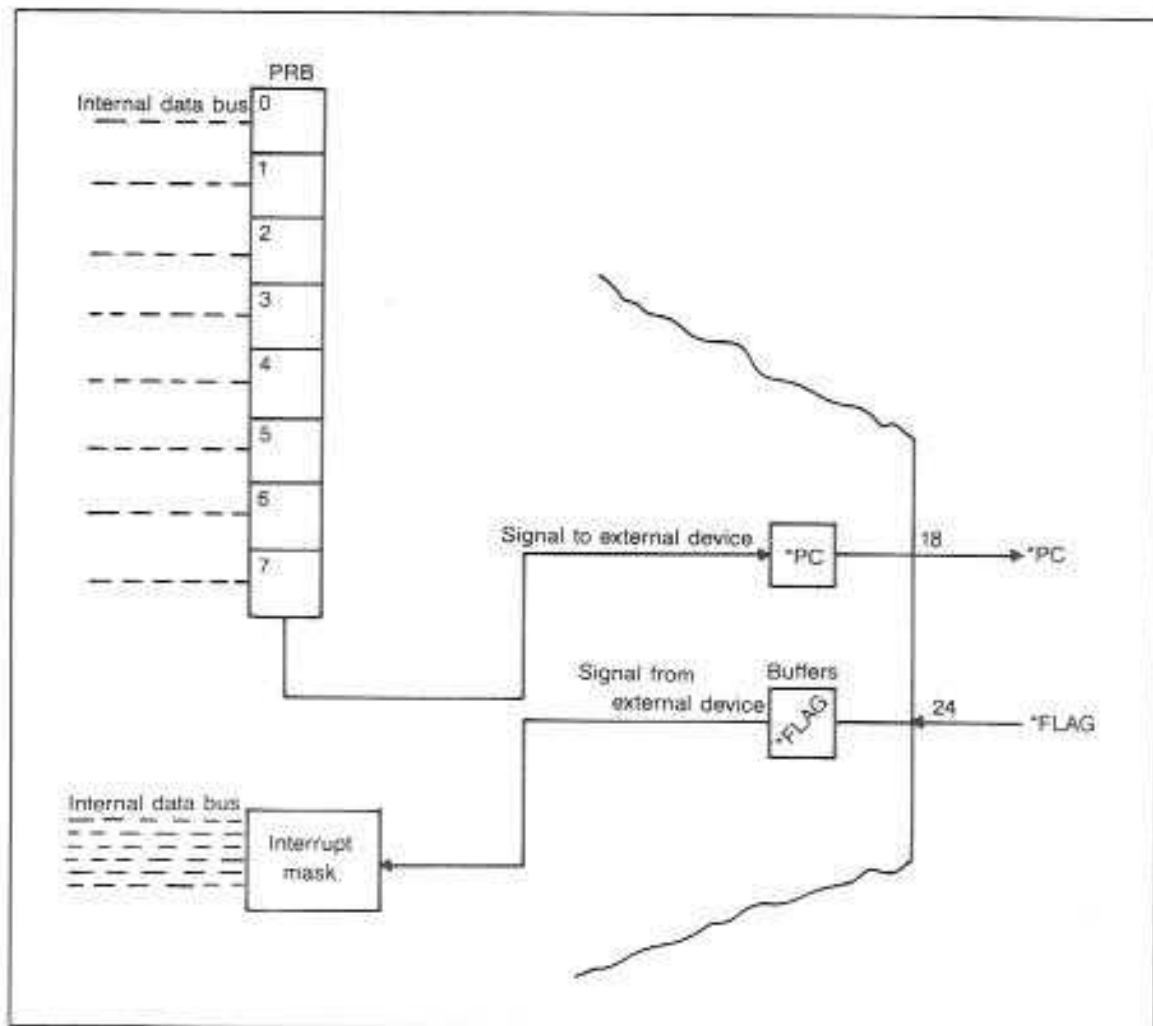

Fig. 19-4. *PC and *FLAG of the CIA are an output and an input that is used during handshaking.
*FLAG is an input pin that connects to the internal data bus of the CIA and, therefore, to the inputs of both the A and B port circuits. *PC is an output pin that exits only from the B port through a special *PC buffer stage. *PC will output a low for one cycle after any read or write of the B port. Refer to Fig. 19-4. During handshaking, this automatic low can be used to talk to another device. The signal could be code saying, "data is ready" or "data has been received."